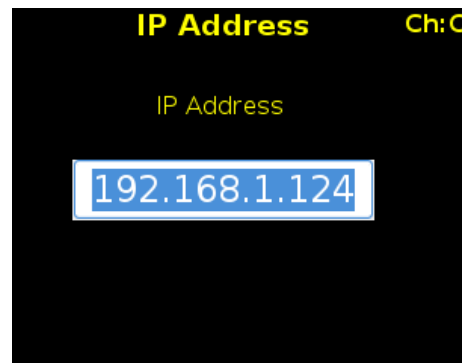

Figure 162: IP Address Entry
2. Type the IP address in the IP Address entry screen (Figure 162), then press the Enter key.